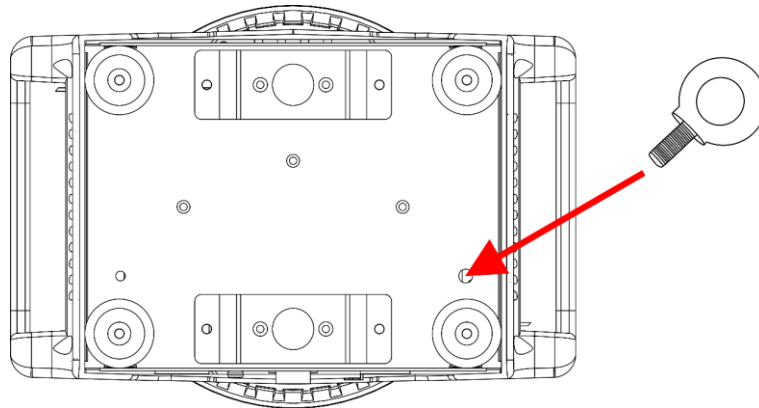

Fig. 09
- 01) Install the safety eye, supplied with the device, in the **safety eye hole (12)**, as shown in Fig. 09. Make sure that you use clamps suitable for attaching the device to a truss.